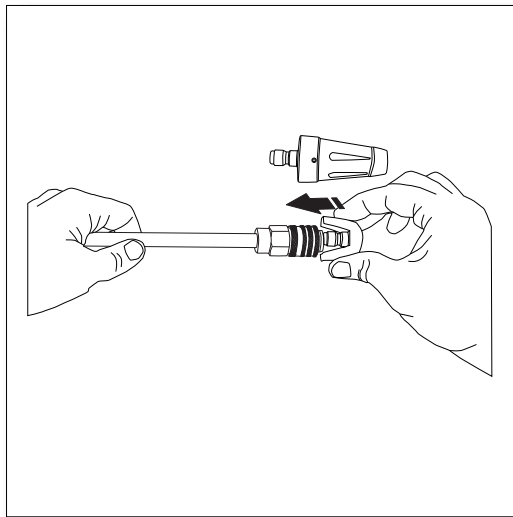
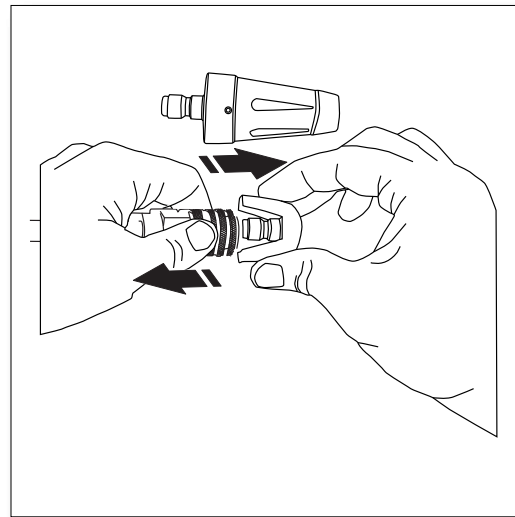

Fig.10
Fig.11
- Attach nozzles into the end of the lance by pressing selected nozzle into place, it will make a click sound when firmly in place (**Fig. 10**). To remove nozzle, pull back on the collar on the lance and pull out the nozzle (**Fig. 11**).